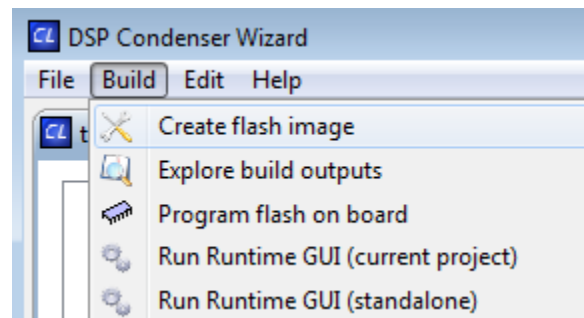

Figure 9-1. DSP Condenser Wizard Menu Items
2. Create a flash DSP image using the DSP Condenser application as shown in Figure 9-1.